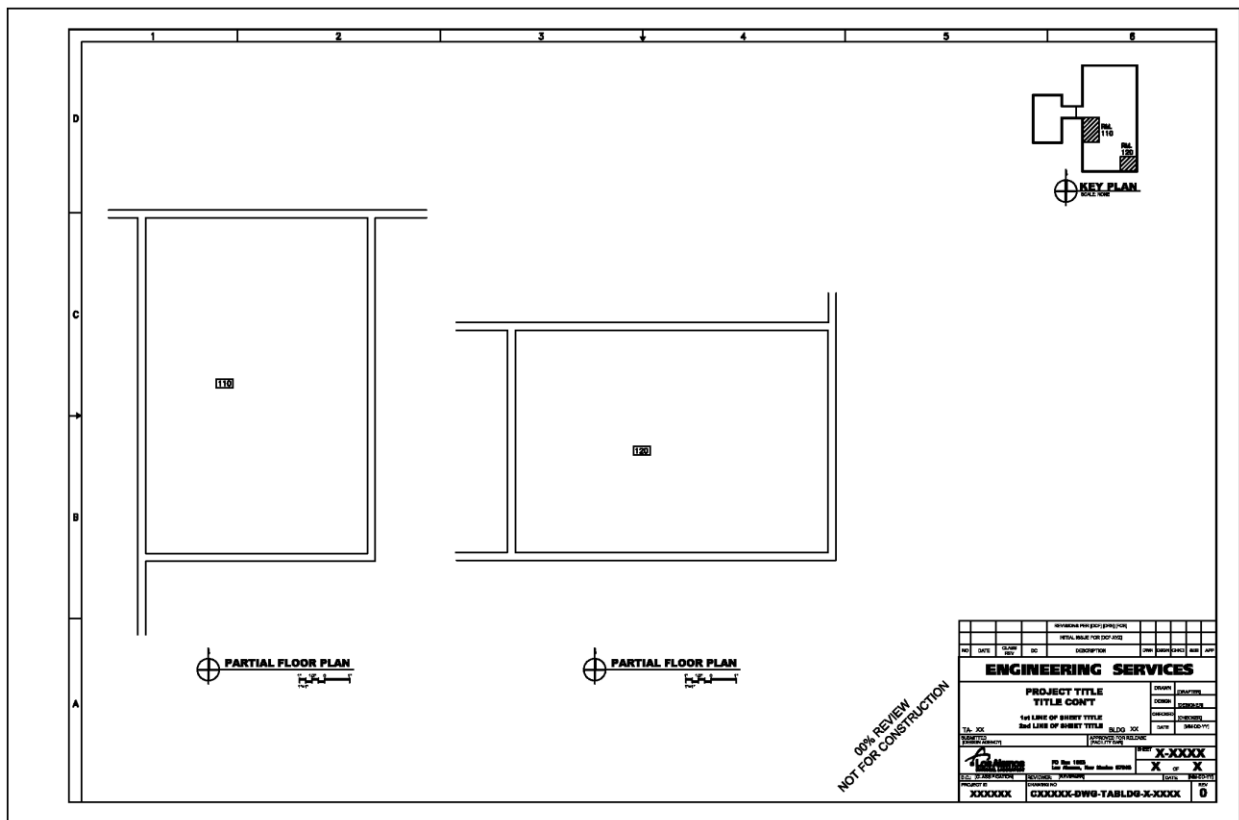

Figure 206-1. Location of Key Plan in Upper Right
- D. Locate the “key plan” in the upper right hand corner of the sheet and occupy a space no larger than a 5” x 5” square including all text (see Figure 206-1 below).